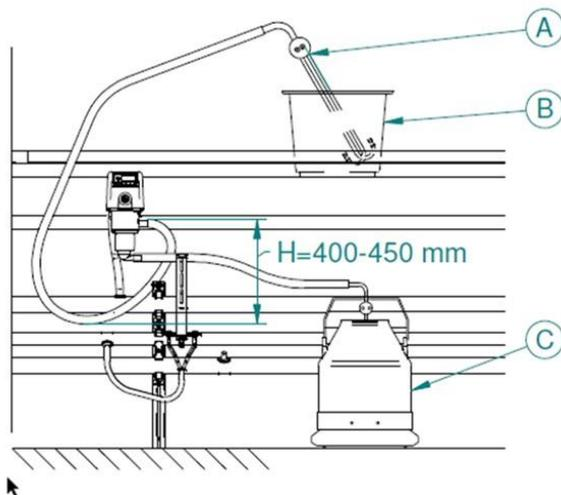

Figure 1: ICAR periodic control.
- a. Flowmeter complete (900 71.000) equipped with a 3.85 mm nozzle (12189) that gives 3 l/min at 38 kPa at high flow and a 1.5mm nozzle (12188) that gives 1 l/min at 38 kPa at low flow, see position A, figure1.
- b. One or more buckets with minimum 20 liter capacity see position B, figure 1
- c. One or more milking buckets for the collection of testing liquid, see position C, figure 1
Remove the milk hose from the milking cluster and replace it with the flow meter (See position A, figure 1). It is important that the hose is guided from the flow meter to the IDC as usual.
Now the testing liquid is lead to a milking bucket (See position C, figure 1) instead of through the milk line.
A bucket with testing liquid (See position B, figure 1), from which the flow meter sucks water is set where the cow would normally stand. Milking bucket must be equipped with "Adapter for bucket lid branch $\varnothing 16\text{mm}$ " (210 46.303).
- a. Prepare for the as test as figure 1 (See chapter 1.2)
- c. Open both nozzles of the flow meter (See position A, figure 1) and place flow meter in the bucket and press "Start".